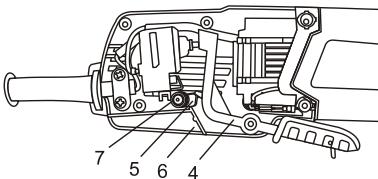

Fig. 9
6. Remove the switch paddle arm (4) by lifting it upward (Fig. 9).
7. Remove the lock-on button (5) by lifting it out of the left half of the handle (6).